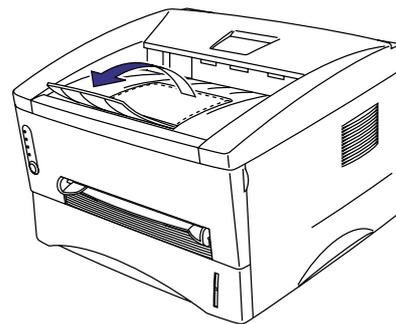

Fig. 2-12
- (4) Extend the tray extension flap. After the printer has warmed up the Ready LED changes from blinking to lit. (Fig. 2-12)
- (5) Press the control panel button. The printer will print a test page. Check the test page printed correctly.